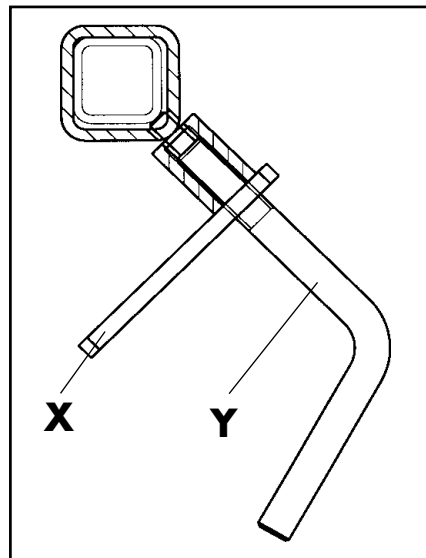

Figure 3-8
- When fixing the swath cloth, ensure that there is no play. Tighten the toggle screw "Y" by simultaneously swivelling the swath sheet and lock it with the yoke "X" (figure 3-8)